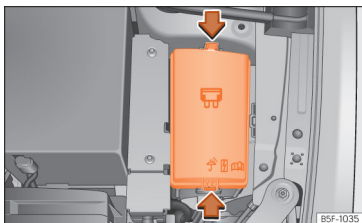

Fig. 230 In the engine compartment: lid of the fuse box.
- Press the locking tabs to unlock the fuse box cover ››› **Fig. 230**.